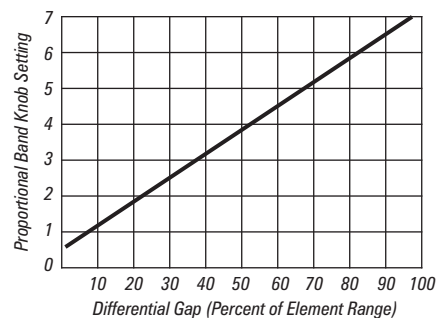

Figure 10 Differential Gap Controller Gap Adjustments
The pressure setting knob sets the transmitter zero. The proportional band adjustment knob (Figure 10) sets the span.
2. Set the PROPORTIONAL BAND ADJUSTMENT for the proper differential gap (see Figure 10).
4. Use the following equation and the graph in Figure 10 to determine the proportional band adjustment setting. Assume that the sensing range is 0 to 100 psig and the controller is to switch from zero to full output pressure at a process pressure of 80 psig with rising process pressure and from full supply pressure to zero at 20 psig with falling pressure (direct acting).
From Figure 10, the proportional band adjustment should be set at approximately 4.5.